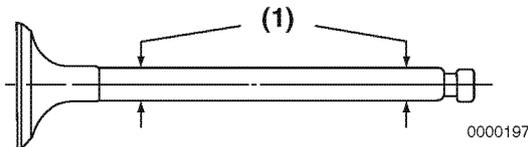

Figure 6-16
Use a micrometer to measure the valve stem diameter. Measure the valve stem near the combustion end and near the opposite end (**Figure 6-16, (1)**). Record the measurements. See *Intake / Exhaust Valve and Guide on page 6-5 for the service limit.*